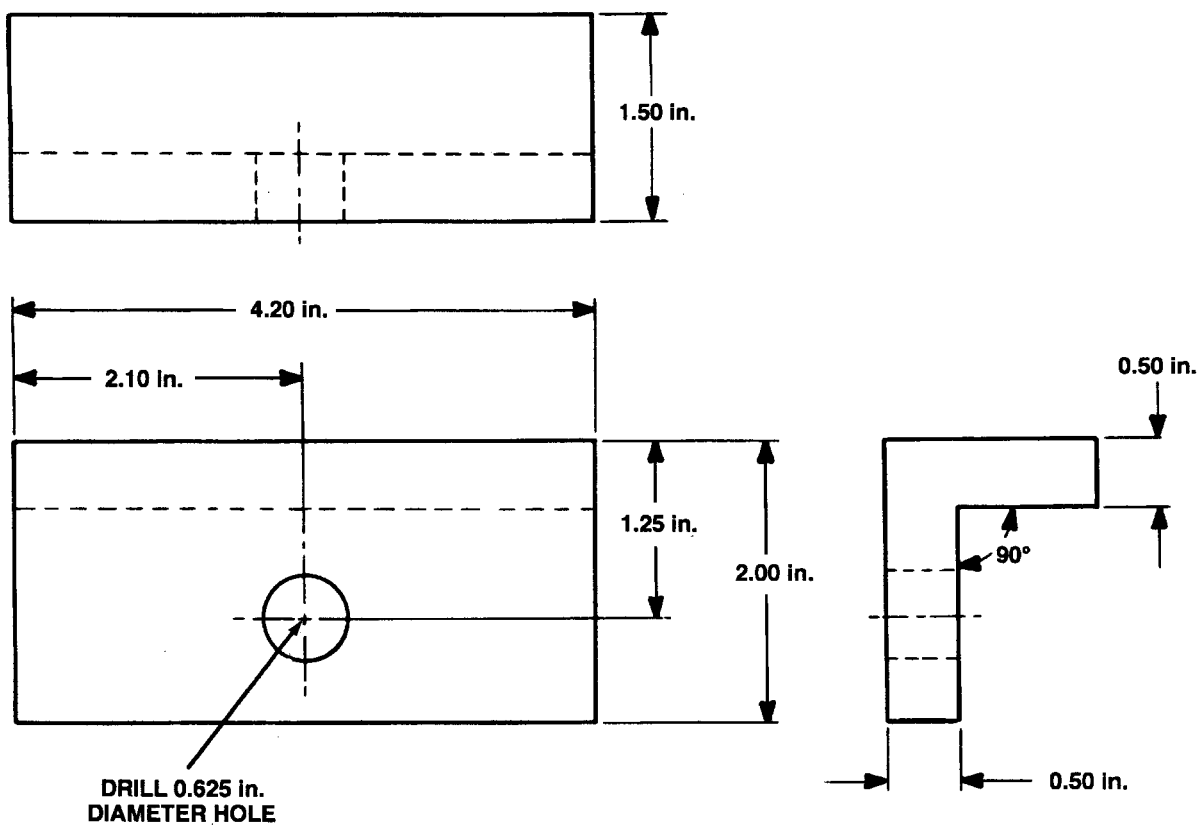

Figure D-117. Fixture Fabrication.
1. Using NSN 9510-00-229-4822 metal bar, fabricate bushing (1) as shown.
3. Press bushing (1) into fixture hole (2) (fixture fabricated in figure D-117).